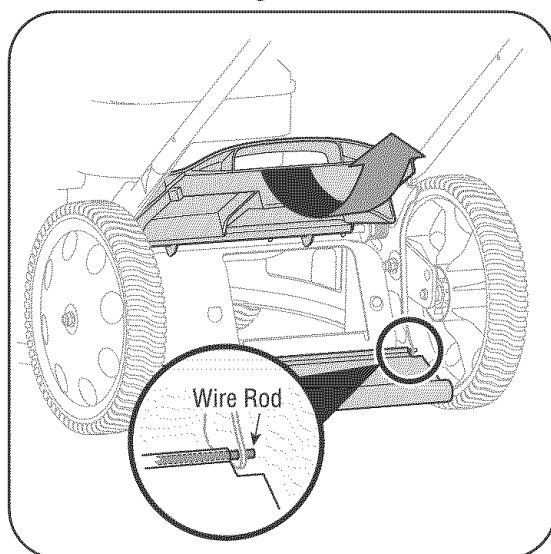

Figure 4
1. To remove rear flap, cut off the flat end of the wire rod which secures it to the deck. See Figure 4.